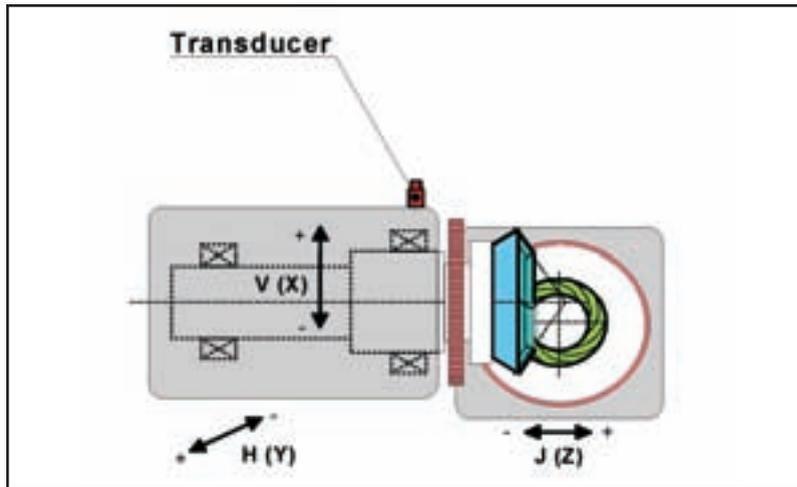

Figure 4—Typical arrangement of a vibration noise sensor on a bevel gear rolling tester.
Vibration noise check (VN). Typically a vibration noise sensor is mounted on a gear tester as close as possible to the meshing gear set to be tested (see Fig. 4). Preferably a CNC roll tester is used to apply torque and speed, to minimize influences of the roll testing machine itself, such as temperature deviations caused by mechanical brakes, torque variations due to manual application of torque, and speed variations due to influences of the applied torque—just to name a few.